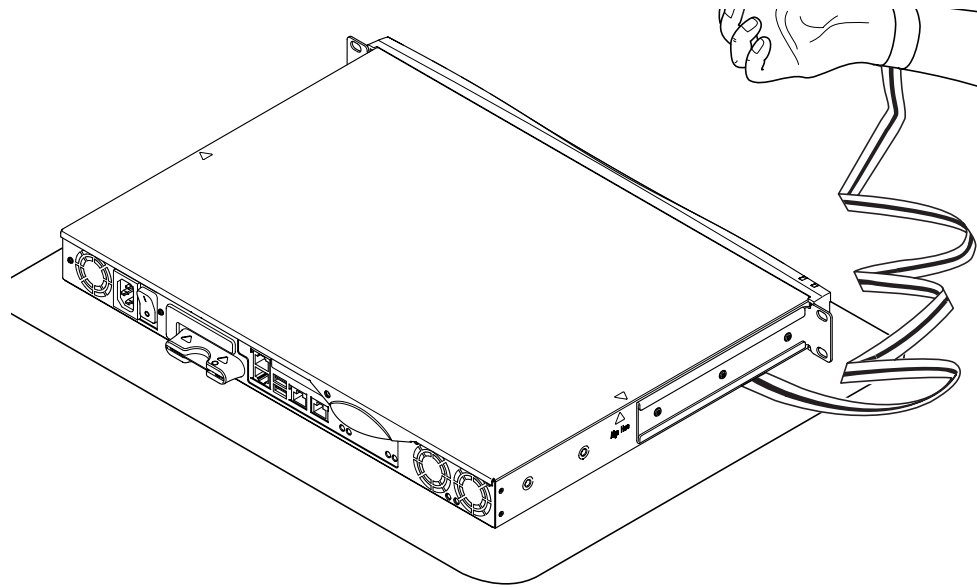

FIGURE 8-2 Using the Disposable Antistatic Wrist Strap Supplied With the System
Caution – The system contains electronic parts that are extremely sensitive to static electricity. Do not touch any metal parts. Place the system on top of an electrostatic discharge (ESD) pad (see FIGURE 8-2). Use the disposable antistatic wrist strap supplied with the system, and attach it to the metal base of the system before touching any of the internal components.
1. **Place the unit on an ESD surface and attach an antistatic wrist strap (see FIGURE 8-2).**
1. Place the unit on an ESD surface and attach an antistatic wrist strap (see FIGURE 8-2)
- 1. Place the unit on an ESD surface and attach an antistatic wrist strap (see FIGURE 8-2).**